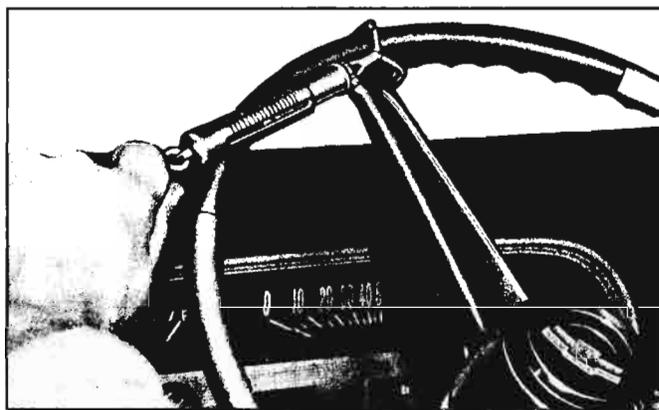

Fig. 4-36—Checking Pre-Load with Tool J-5178
6. Position tool No. J-5178 as shown in Figure 4-36 and, keeping barrel of tool as near 90° to center spoke as possible, rotate wheel by pulling at ring of tool. Note reading of scale necessary to keep wheel in motion; this reading must be between 1/2 and 3/4 lb. A scale reading outside the range given requires readjustment of worm bearing pre-load as follows: